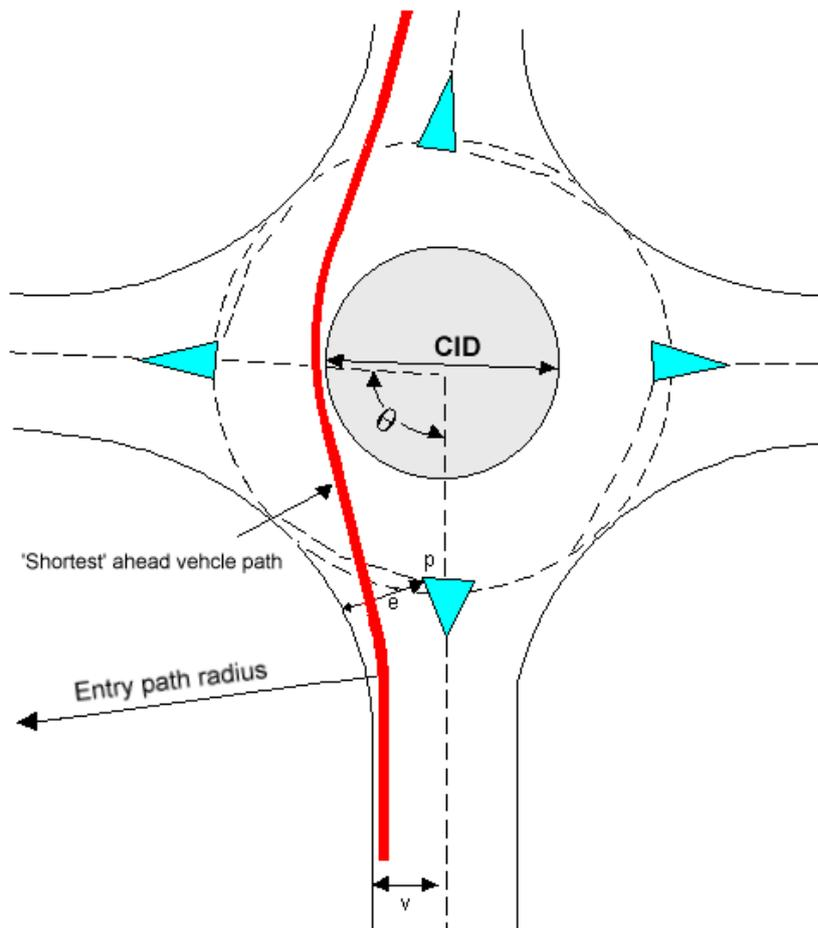

Figure 28-1
curves representing the shortest path the vehicle could take through the roundabout keeping on its own side of the road but otherwise ignoring lane markings. The heavy line in Figure 28-1 represents the locus of one such path.
Normally the path is assumed to start 1 metre from the nearside kerbline (as in Figure 28-1), but it may also start 1 metre from the carriageway dividing line or kerbline of a central reserve, or anywhere between these two points.
*Angle between arms:* The angle between the approach arm and the next arm is the angle subtended by projections of the relevant approach centre lines as shown in Figure 28-1. If the approaches are curved then the tangents to the centre line at the entry points (P) are used for this construction.